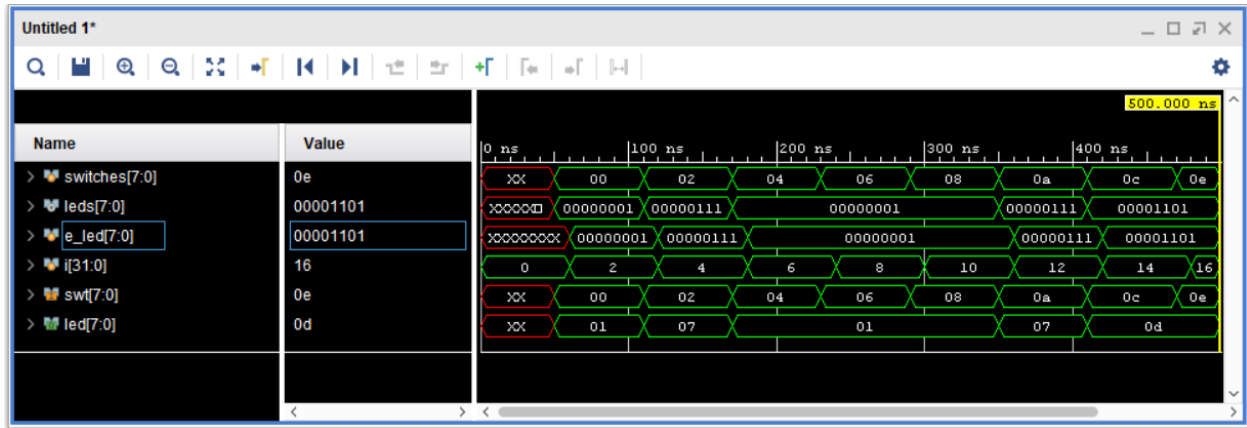

Figure 19: Simulator waveform updated
In order to see values for our newly added signals, we need to run the simulator again. To do this, examine the simulator ribbon bar. Specifically, the buttons in Figure 18 are of note. The first button rewinds the simulation to time zero; if we want to rerun the simulation, we must rewind it first. Next, the play button will run the simulator indefinitely until it receives a stop signal or the testbench has nothing else to do; for most uses cases this is not useful (unless we explicitly have a `$finish` command in our testbench) as it will cause the simulator to run forever. Finally, the play button annotated with a (T) will run the simulator for an additional amount of time, specified in the entry box beside it. **Enter** the value 500ns into the box, press the **Rewind** button, and then press the **Timed Start** button to rerun the simulator for 500ns from time zero. We expect to see the waveform from Figure 19 (remember to press the **Zoom Fit** button to fit the entire waveform in the window).